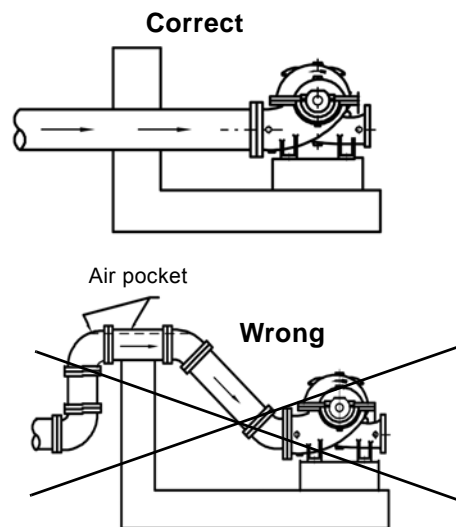

Fig. 8 Air pocket prevention
- Avoid any high points, such as pipe loops (see fig. 8), as this may create air pockets and throttle the system or cause erratic pumping.